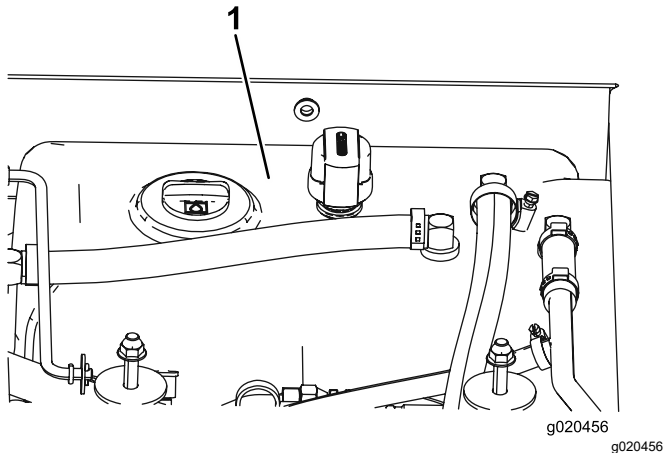

Figure 118
4. Fill the reservoir (Figure 118) with hydraulic fluid; refer to Checking the Hydraulic Fluid (page 80).